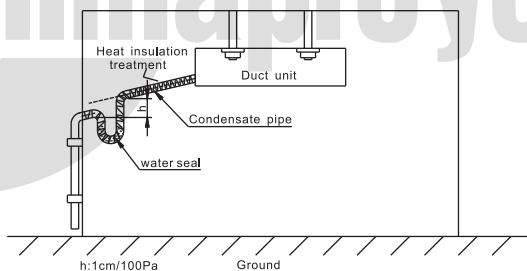

Fig 11
- After the installation of condensate pipes, leakage test must be carried out by pouring some water to confirm no leakage in any connecting point and the drainage is smooth . For the installation, please see Fig 11 :